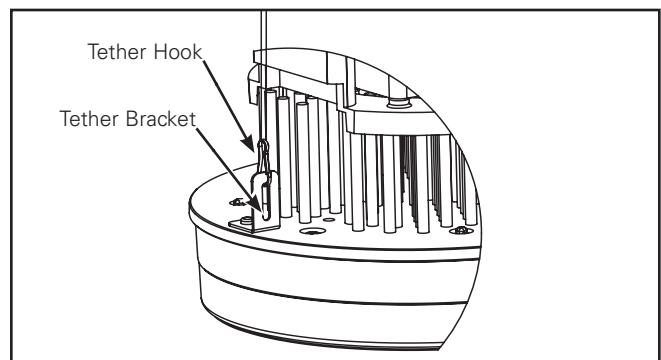

Figure 6.
5. Connect tether to module (Figure 6.).